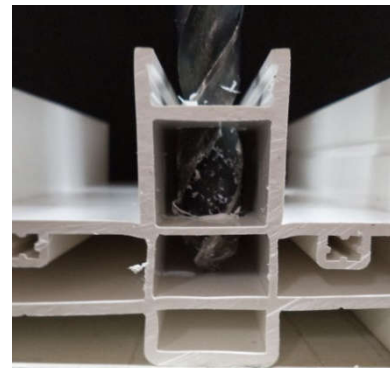

fig.1
1. Lay main frames on a flat surface and drill ½" installation holes. Installation holes can be placed either in towers (fig.1) * or in between towers (fig.2) † When drilling in the towers, drill through first and second vinyl wall. When drilling between towers, drill through first vinyl wall.